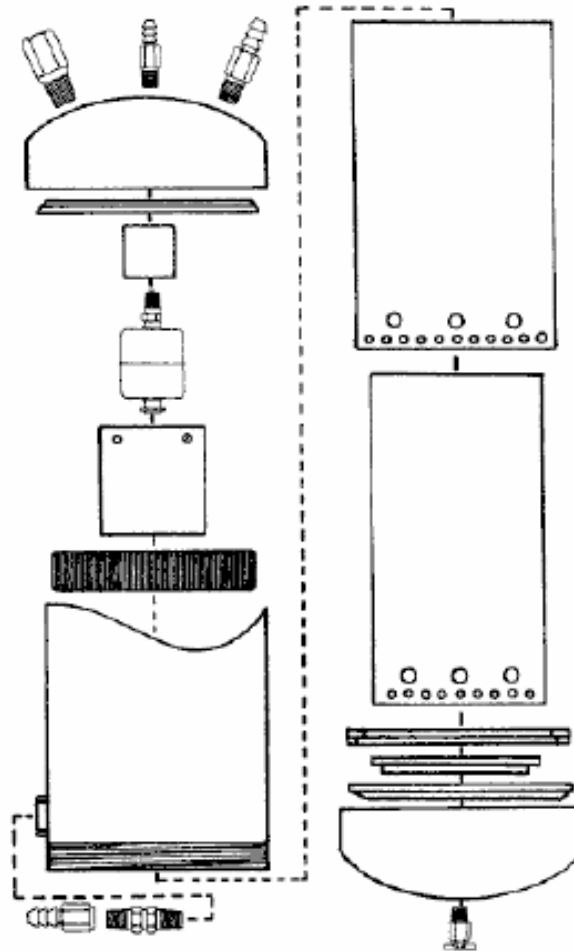

Figure 10: Generator Details
1. CPVC 4" Schedule 80 pipe is used to construct the Generator housing. Since one end of the pipe will require threading, I recommend purchasing a 12" threaded pipe nipple rather than thread a pipe yourself. Refer to the Generator Details view of Figure 10 as an aid to construction.